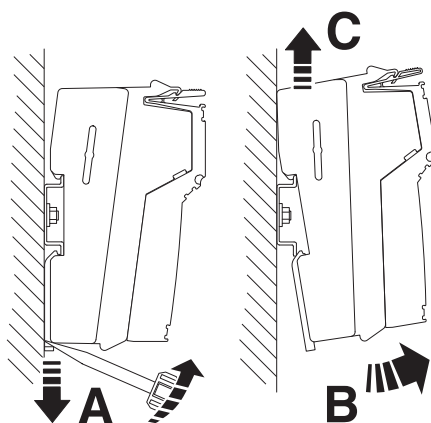

Figure 2-16 Removing the Inline controller (2)
- Insert a tool in the base latches of the Inline controller and pull gently upwards (Figure 2-16, A). Pull out the Inline controller from the DIN rail (Figure 2-16, B, C).